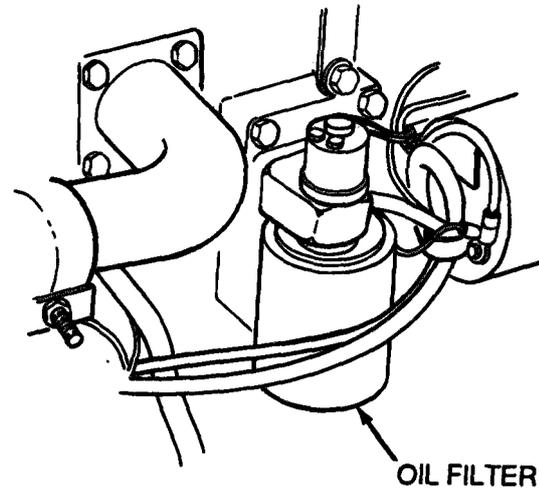

Figure 3-4
2. Place a suitable container under oil filter (Figure 3-4).